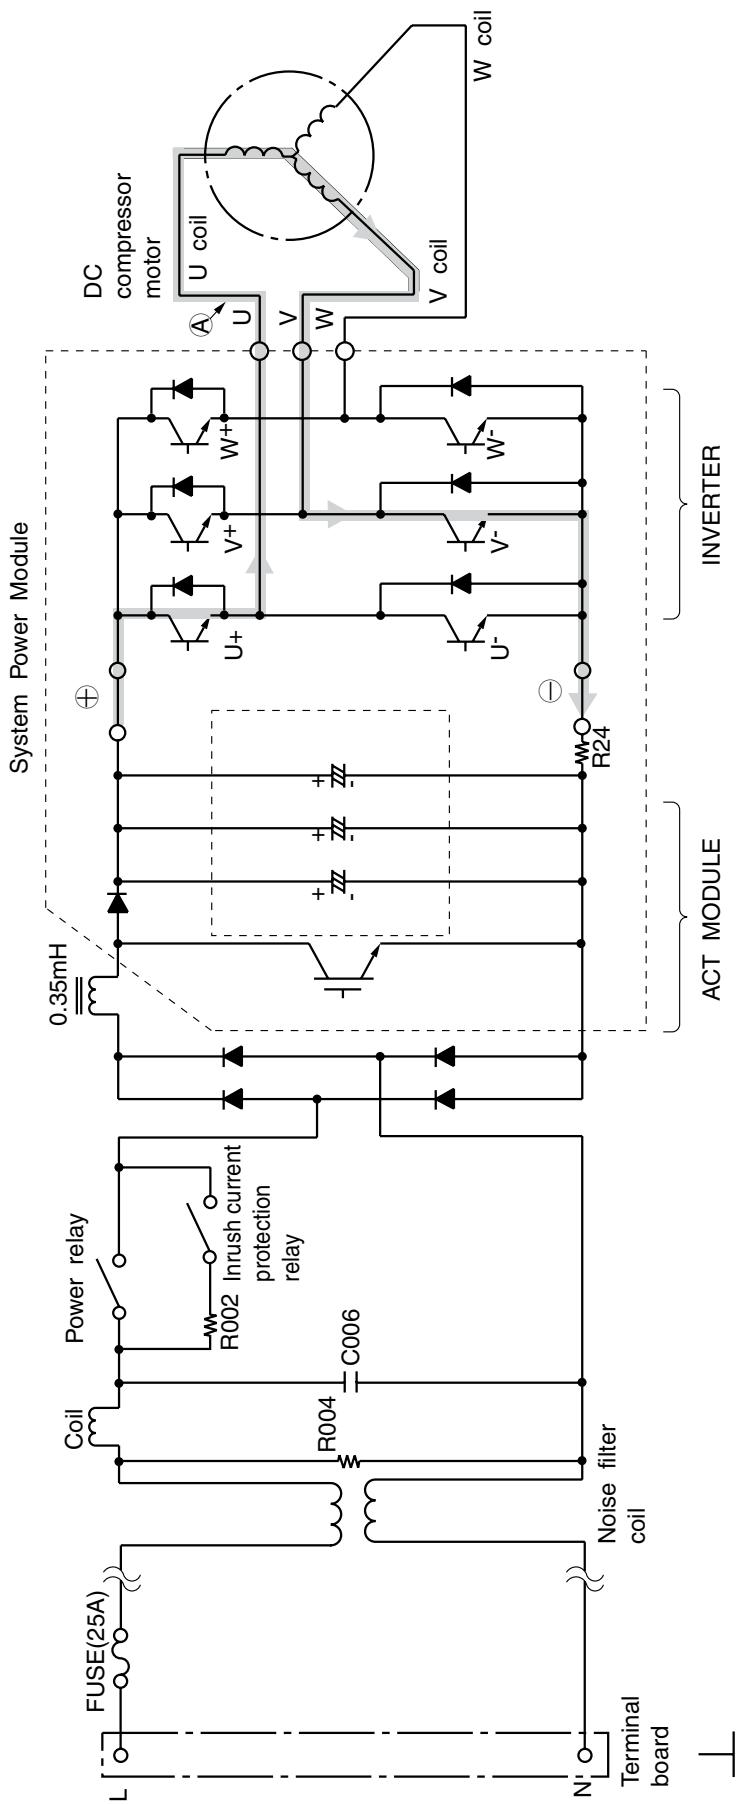

Fig. 3-1 System power module circuit (U^+ is ON, V^- is ON)
- Fig. 3-1 shows the system power module and its peripheral circuits. (Current ACT module and power module are combined into one unit.) The three transistors on the positive \oplus side are called the upper arm, and the three transistors on the negative \ominus side, the lower arm.